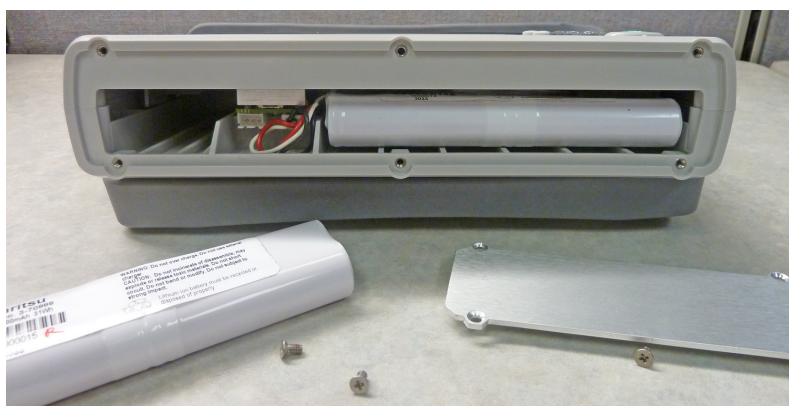

Figure 10-3. Replacing the Batteries
3. Carefully disconnect the battery connector and remove the battery. Repeat for the second battery (Figure 10-3).